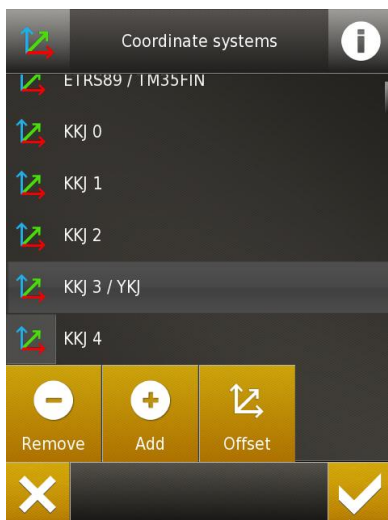

Fig. 28: Coordinate systems menu
There can be several coordinate systems in the list (Fig. 28). The coordinate system with an icon that has a light grey background is currently in use. A coordinate system can be activated by choosing it from the list and pressing the “Accept” button. To return back to the main menu without saving any changes press the “Cancel” button. Table 33 explains how to edit the list of coordinate systems.
- 3) Load the .csv file into the system ("Main menu" → "Coordinate systems" → "Add" → "Import") (Fig. 28 and Table 33).